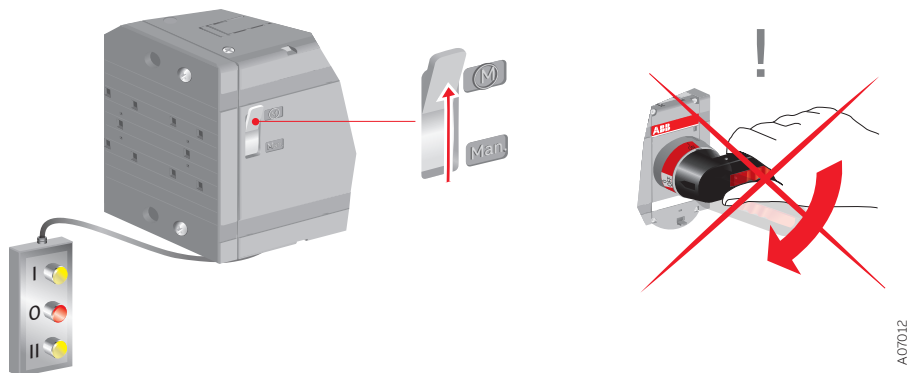

Figure 5.2 Motor/Manual selection switch in the Motor (M) position
2. Turn the Motor/Manual selection switch to the Motor (M) position, see Figure 5.2.